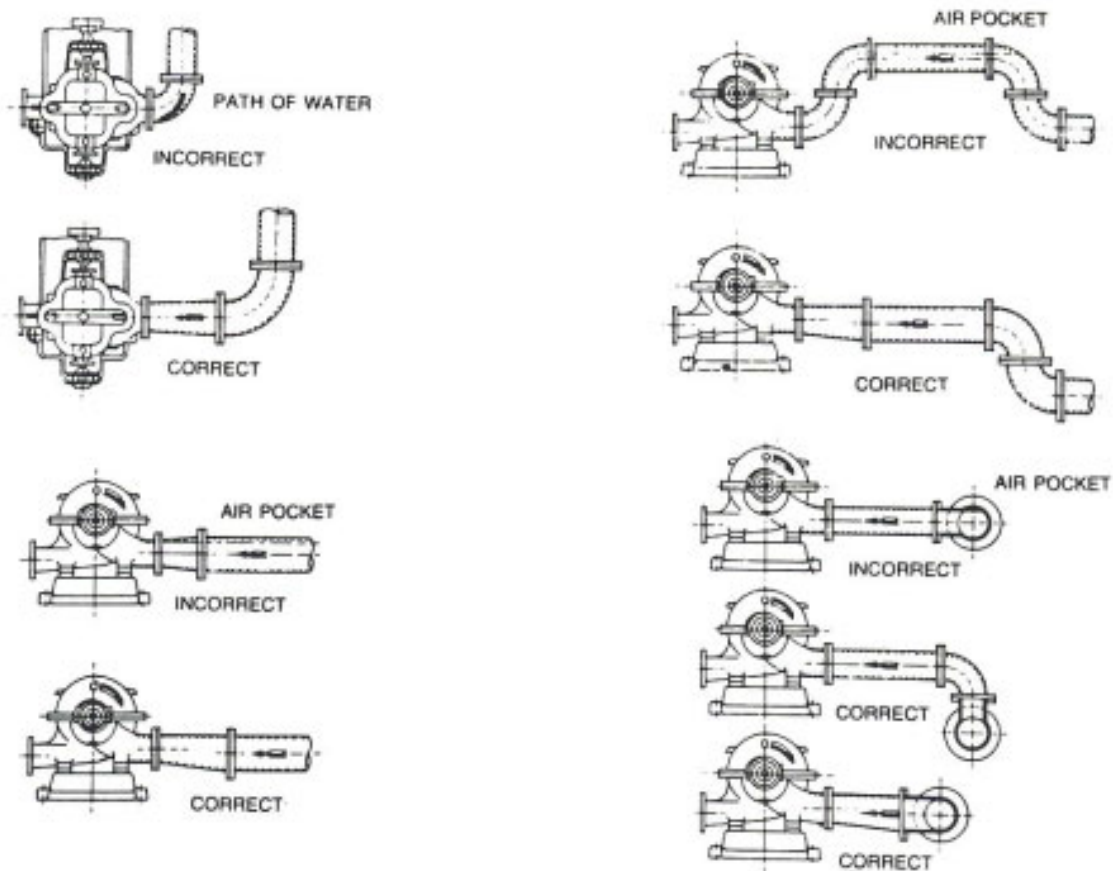

Fig. 5 - Suction Piping Layout
- c) Place a straight edge exactly on both coupling halves as shown in Figure 5.